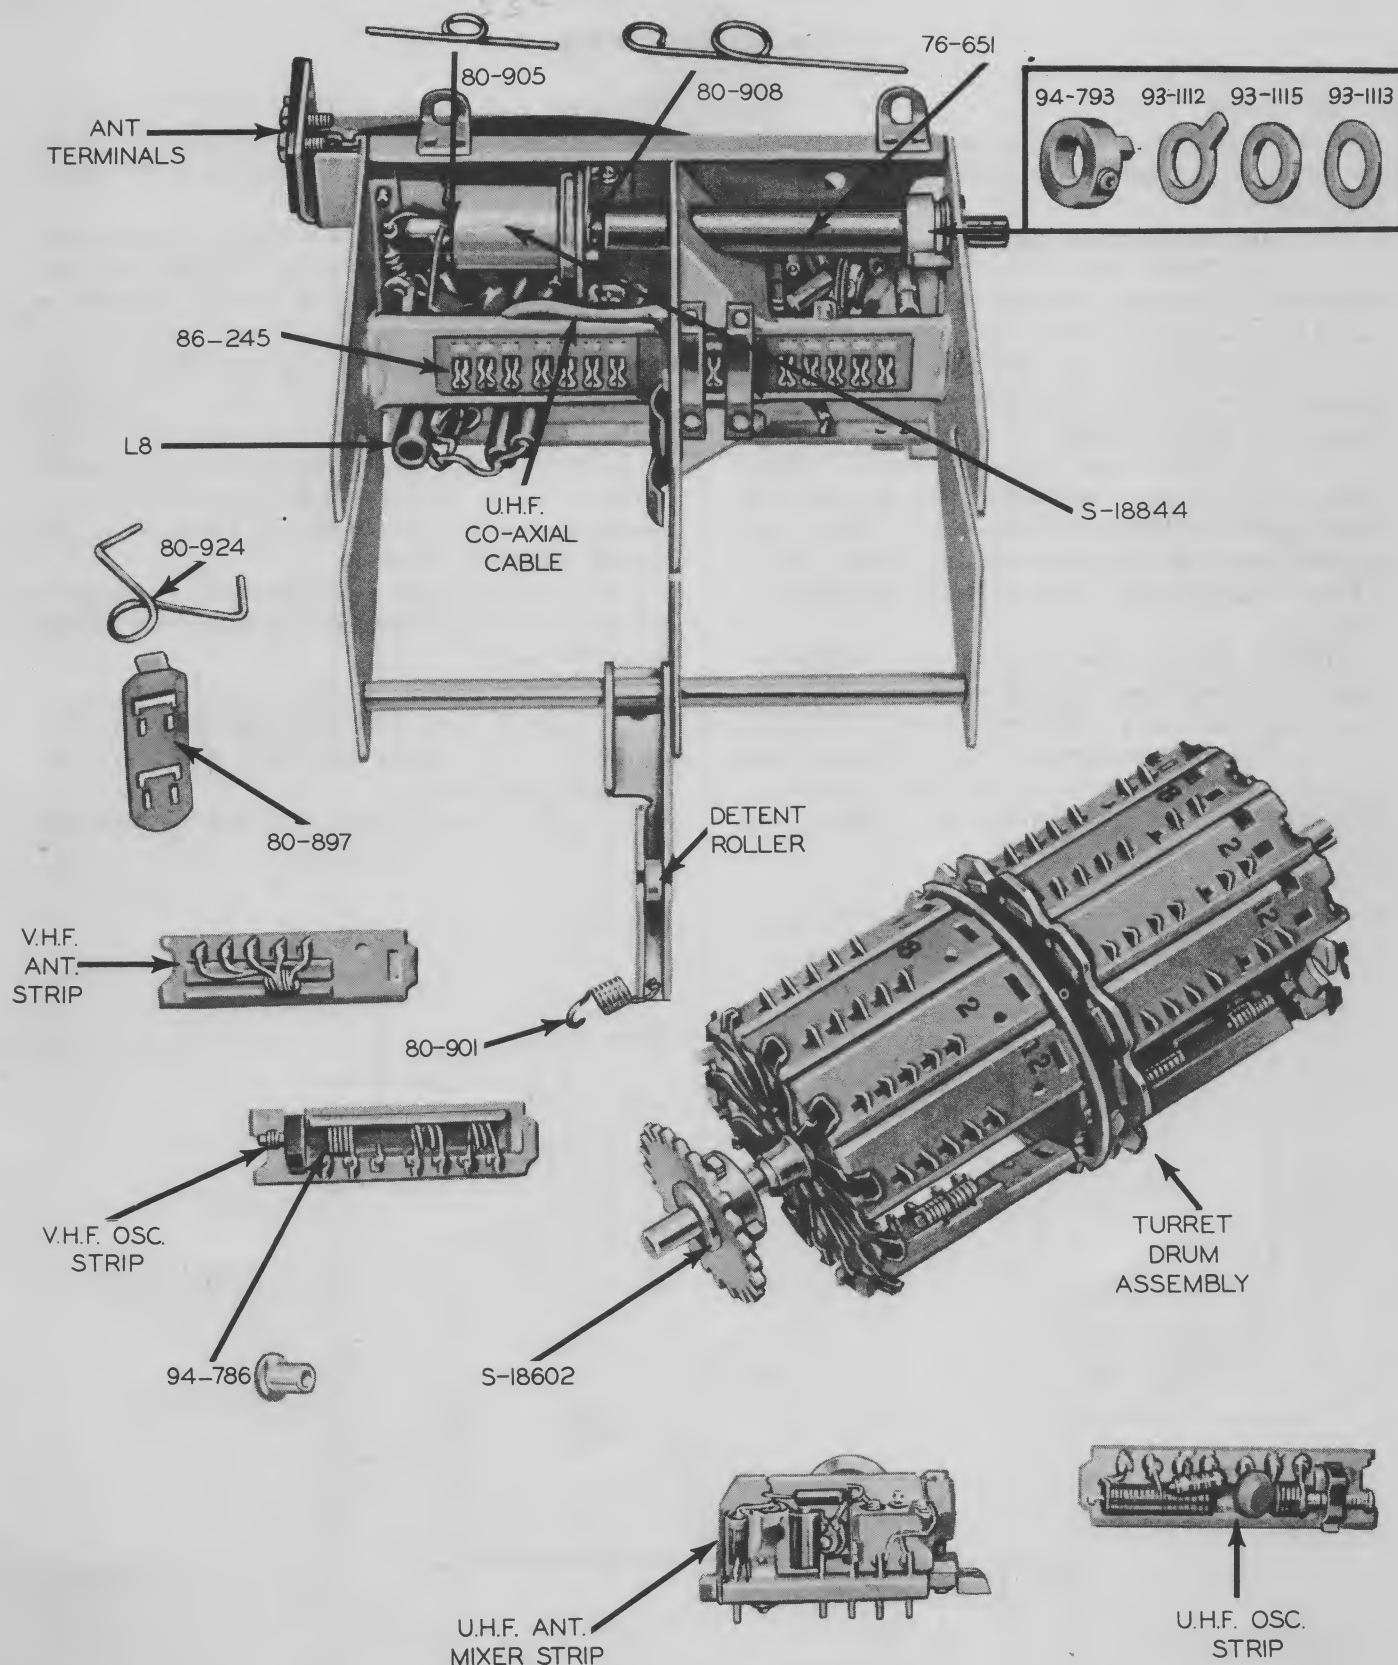
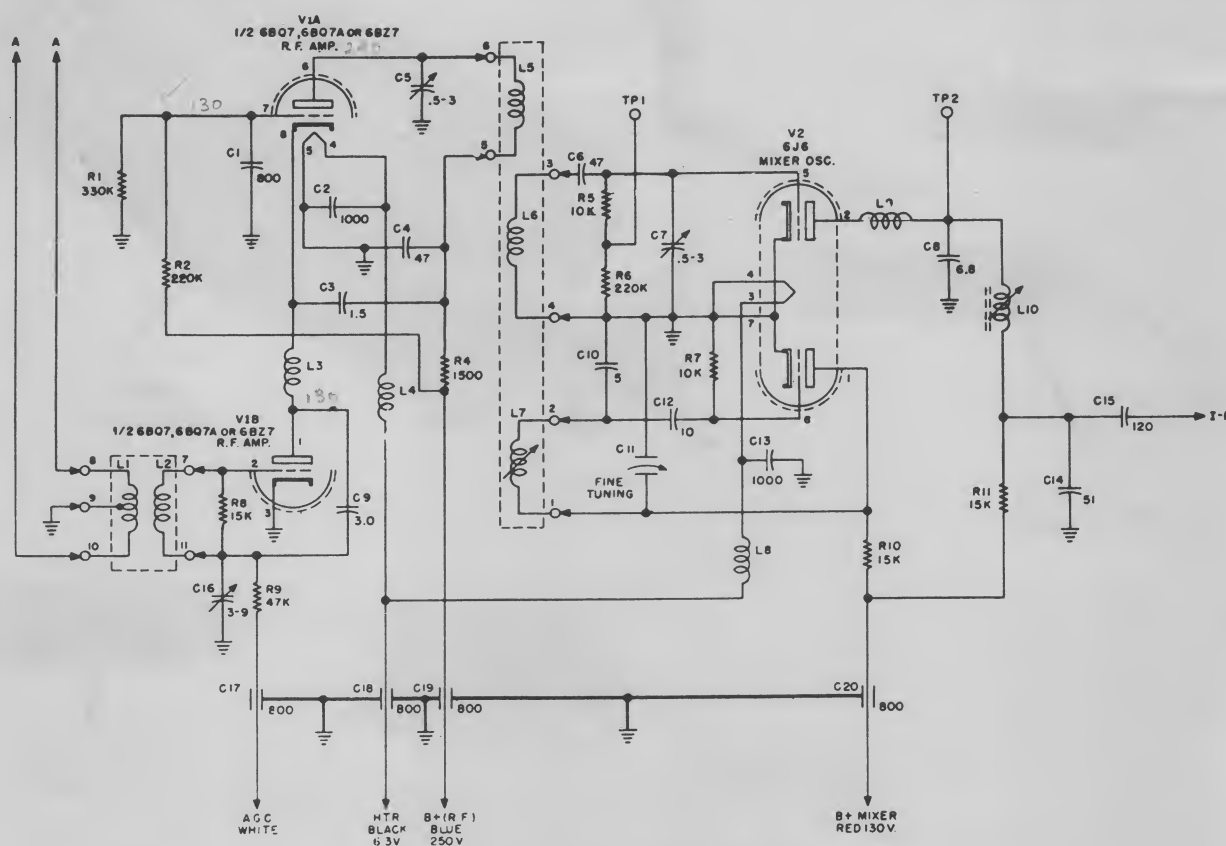

Fig. 9-1. Exploded view of turret tuner: Zenith 19L27.
Fig. 9-2. Turret tuner: Crosley 405.
(1) *Turret tuner.* This features a rotatable drum with removable strips. On these strips are the tuned circuits for each of the channels (see Fig. 9-1).
2. **TURRET TUNER EMPLOYING CASCODE R-F AMPLIFIER.** Typical of front ends employing a turret tuner and cascode r-f amplifier is that used in the Crosley 405 (Fig. 9-2).
The tuner consists of a dual triode, either the 6BQ7 or 6BZ7, connected in cascode, and a 6J6 which combines the functions of mixer and oscillator. The tuned strips are mounted on the rotatable turret. There are two strips for each channel (L1 and L2 in Fig. 9-2). The antenna strip holds the primary and secondary coils. The second strip holds the coils for the plate of the r-f amplifier, L5; grid of the mixer, L6; and oscillator, L7. The inductance of L1, L2, L5, and L6 is fixed. The oscillator coil, L7, is made variable by a core adjustment, accessible from the front.
*b. R-F Amplifier.* V1 is a cascode amplifier using a 6BZ7 or 6BQ7, whose operation is the same as that described in Fig. 9-2. C1 is a tuning adjustment for the lower channels and is set on Channel 6.
tuners (Figs. 9-2 and 9-5), which use individual channel strips, are easily adaptable for uhf reception, simply by the addition of uhf strips. Turret tuners usually contain 12 sets of strips for each of the vhf channels. A maximum of seven vhf channels is allotted to any one area. Hence, five vhf strips may be removed and replaced with uhf strips. Figure 9-1 shows the uhf strips available for the Zenith turret. Similar strips can be obtained for the Standard tuner, used in many TV receivers. However, circuit operation of these strips in the Standard tuner is somewhat different from that in the Zenith turret tuner.